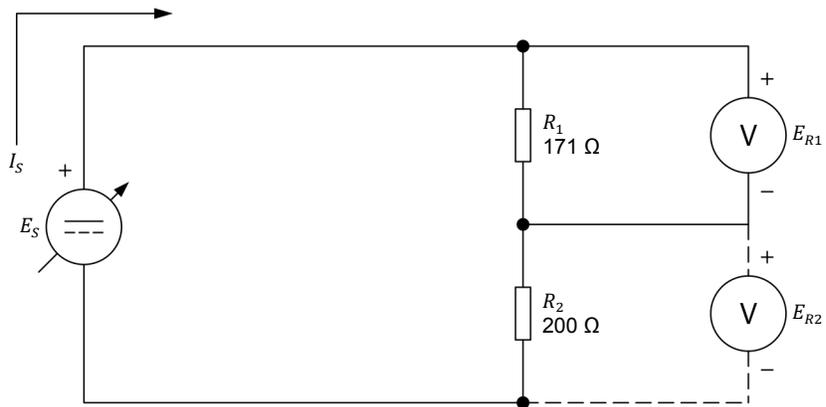

Figure 26. Measuring power in a circuit with resistors in series.
- Set up the circuit shown in Figure 26. To obtain the resistor arrangement of Figure 26, make the necessary connection(s) and switch settings on the Resistive Load module.
The voltage across resistor R_2 will be measured separately in another step. For this reason, the voltmeter symbol is dashed for E_{R2} in Figure 26.
15. Disconnect the voltmeter from resistor R_1 and connect it across resistor R_2 , as shown in Figure 26.